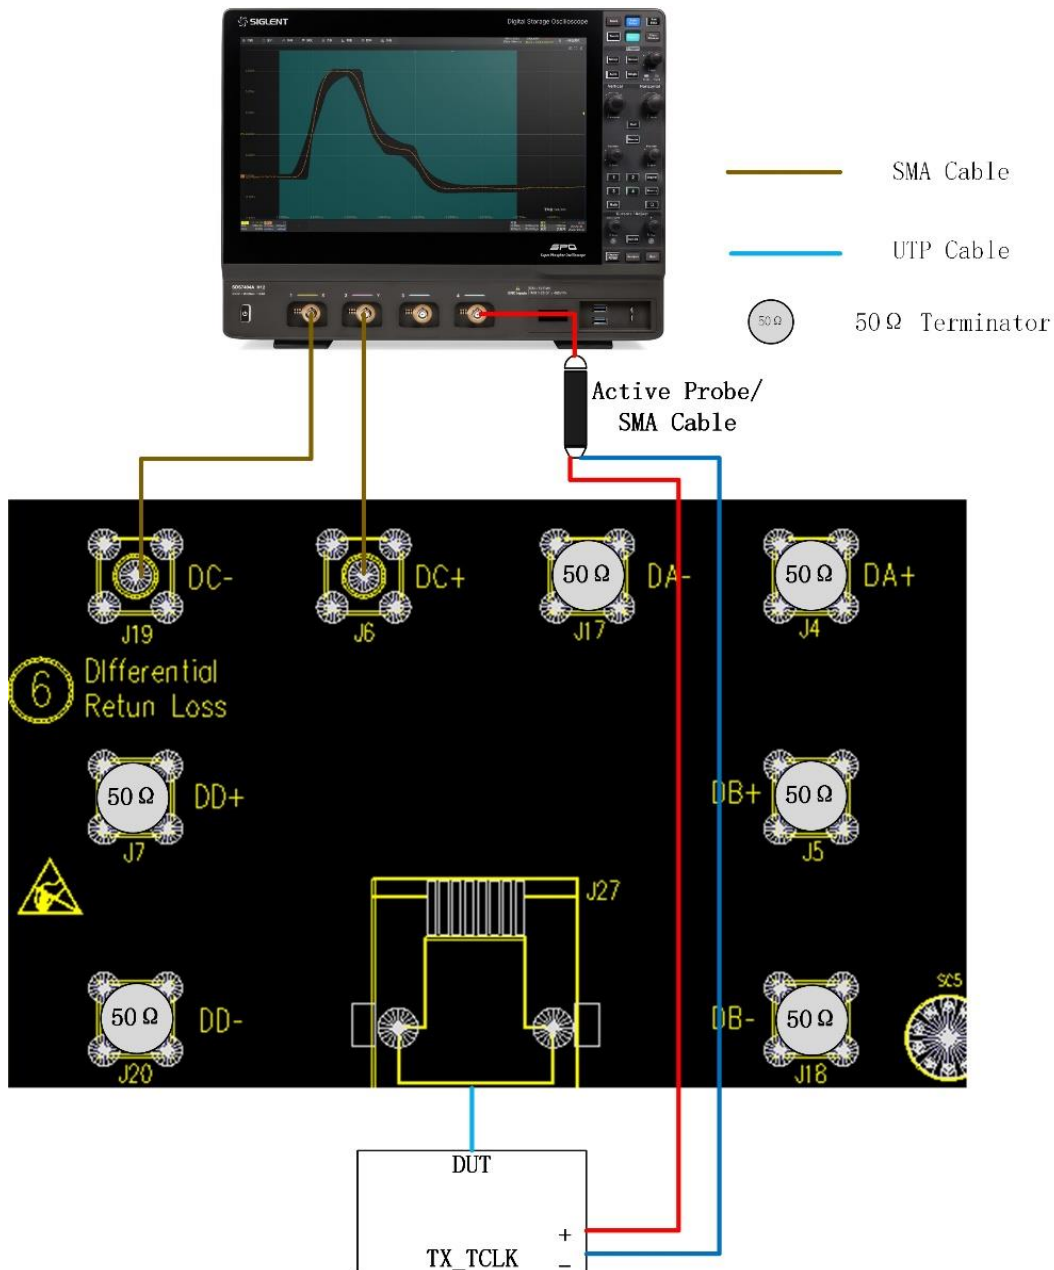

Figure 10-8 Connection of Section ⑥ on test fixture for Slave Mode JTXOUT test
The connection with section ⑥ on the test fixture which supports SMA cables to probe the MDI signal, which is shown as Figure 10-8, the test step is as follows:
- (1) Use a short UTP cable to connect the DUT to the J27 connector on section ⑥ of the test fixture.
- (2) According to the signal pair being tested, using two SMA cables with equal length to connect the corresponding test points {DA(J17, J4), DB(J5, J18), DC(J6, J19), DD(J7, J20)} on section ⑥ of test fixture to two input channels of the oscilloscope.
- (3) Connect the other unused test points on section ⑥ of the test fixture to 50Ω terminators.
- (4) Connect the DUT's TX\_TCLK to one input channel of the oscilloscope by using an active probe or a SMA cable.